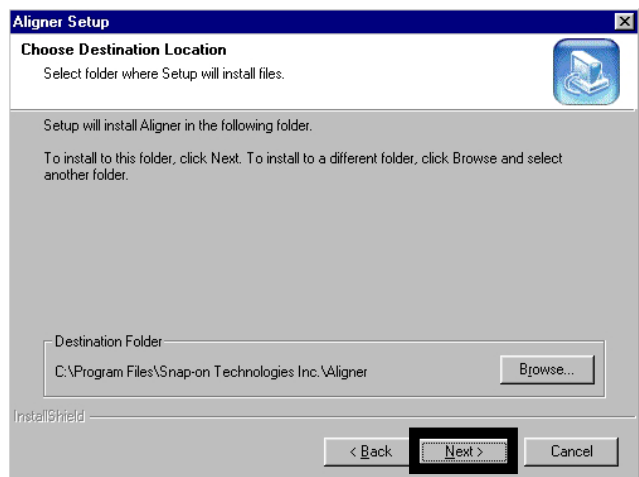

Figure 3-11
9. The default designation for the alignment software is "**C:\Program Files\Snap-on Technologies\Aligner**" click on **<NEXT>** to proceed with software installation. (Figure 3-11)